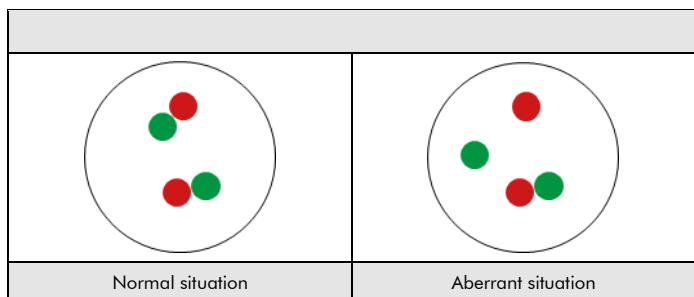

Fig. 2: Expected results in normal and aberrant nuclei
**Normal situation:** In interphases of normal cells or cells without a translocation involving the DDIT3 gene region, two red/green fusion signals appear (see Fig. 2).
**Aberrant situation:** One DDIT3 gene region affected by a translocation is indicated by one separate distinct dot-shaped green signal and one separate distinct dot-shaped red signal (see Fig. 2).